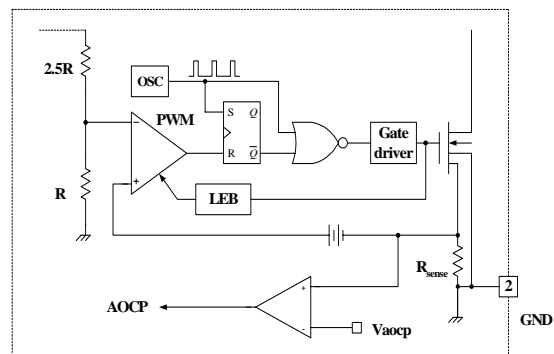

Figure 8. AOCP block
3.2 Abnormal Over Current Protection (AOCP) : Even though the FPS™ has OLP (Over Load Protection) and current mode PWM feedback, these are not enough to protect the FPS™ when a secondary side diode short or a transformer pin short occurs. The FPS™ has an internal AOCP (Abnormal Over Current Protection) circuit as shown in figure 8. When the gate turn-on signal is applied to the power Sense FET, the AOCP block is enabled and monitors the current through the sensing resistor. The voltage across the resistor is then compared with a preset AOCP level. If the sensing resistor voltage is greater than the AOCP level for longer than 300ns, the reset signal is applied to the latch, resulting in the shutdown of SMPS.